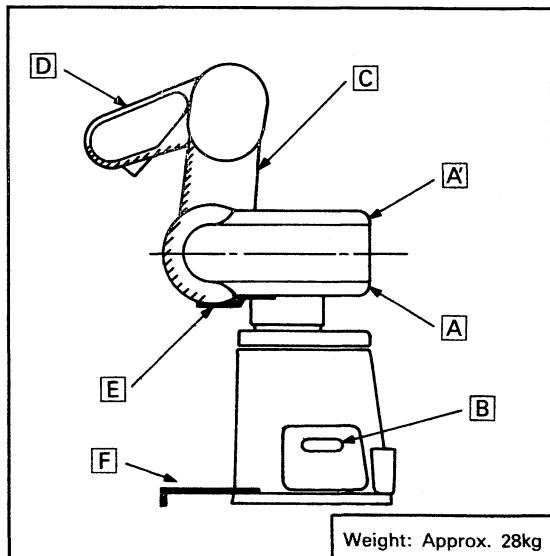

Fig. 1.1.1 Robot Attitude in the Package
**1.1 Unpacking Instructions** (1) Carefully read "Section 1.1 Transportation of the Robot, Vol. 2" before removing the robot from the package.
- (2) Do not hold the covers (areas A, A') shown in Fig. 1.1.1 when removing the robot.